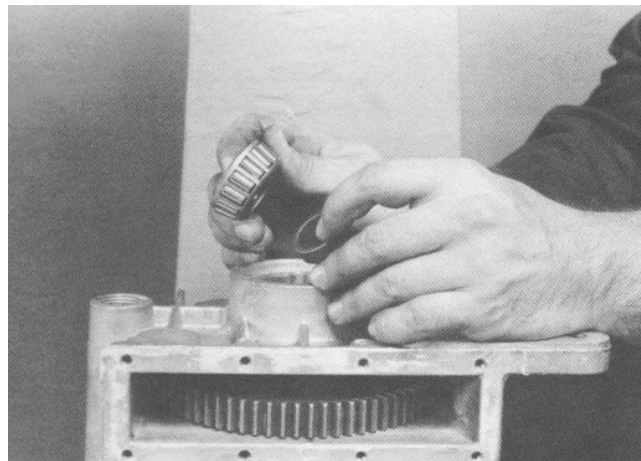

Figure 42
8. Install the outer pinion spacer with the chamfer towards the pinion splines and install the new outer pinion bearing cone (Fig. 42).